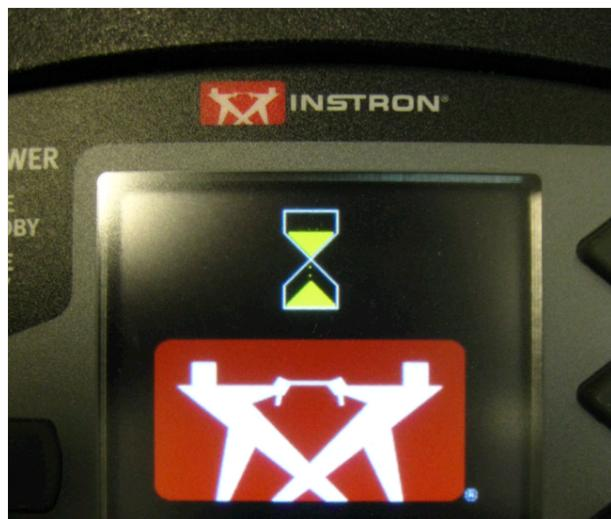

Fig. 3.3.1. Image of the screen of the control panel during system calibration.
- ii. Turn on **frame** via a switch located behind its base (on the right side), and wait for the system to run its calibration process (an hour glass will appear on the screen of the control panel) (see Fig. 3.3.1).